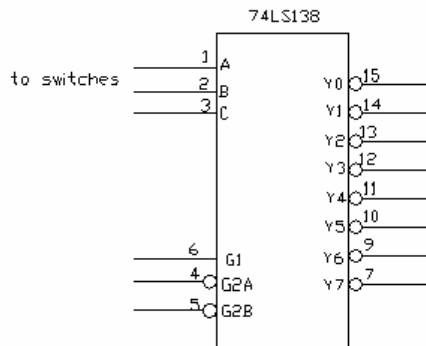

Figure 1
1. Analysis of 74138: Build the circuit of Figure 1.